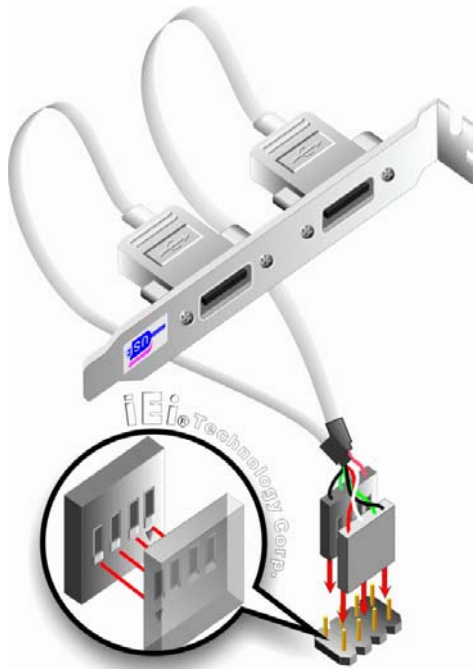

Figure 4-18: Dual USB Cable Connection
Step 3: Insert the cable connectors Once the cable connectors are properly aligned with the USB connectors on the PIC0e-HM650, connect the cable connectors to the on-board connectors. See **Figure 4-18**.